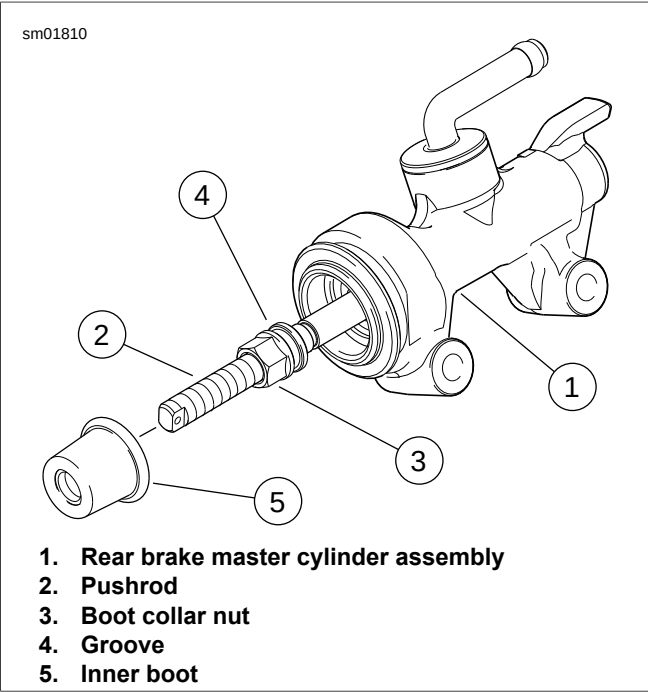

Figure 2-88. Lubricating and Installing Inner Boot
11. See Figure 2-88. Apply approximately 0.1 g of G40M BRAKE GREASE around groove (4) in boot collar nut (3). Carefully slide inner boot (5) down onto pushrod (2) and into end of master cylinder bore. Press lip of inner boot down around groove in boot collar nut.